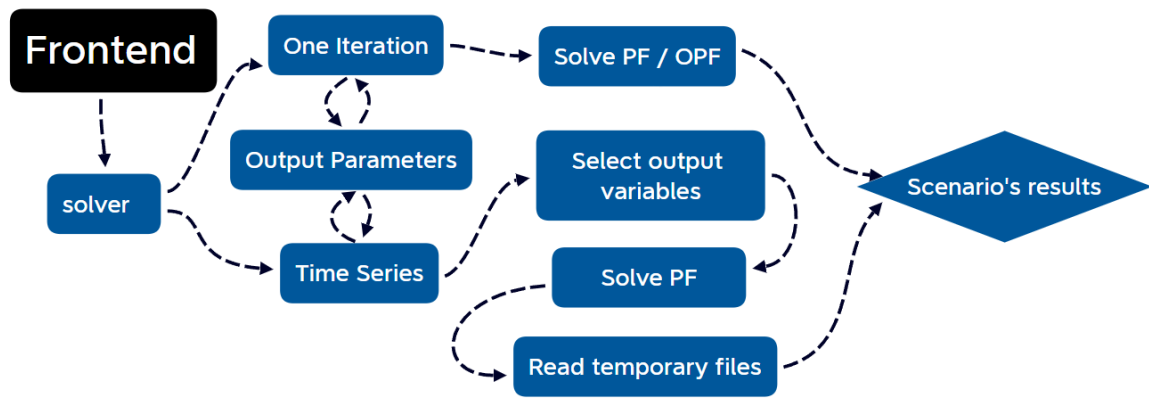

Figure 17: Solver's Workflow
A more detailed workflow of the solver is shown in Figure 17. The first step is calling the solver, it receives the network, and the configuration of what problem should be solved. The latter includes whether the problem is a Power Flow (PF) or an Optimal Power Flow (OPF), whether it is a linearized approximation or the full non-linear, and finally, whether it is a time series analysis or it is a one-time step iteration.